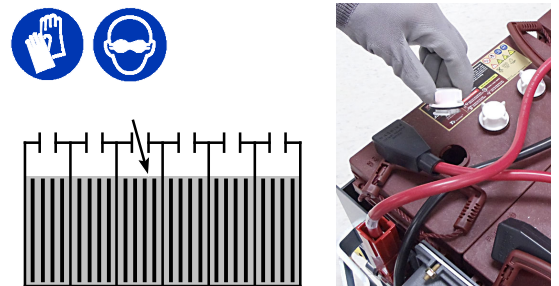

FIG. 100
- Check the electrolyte level in all batteries (Figure 100). See BATTERIES.